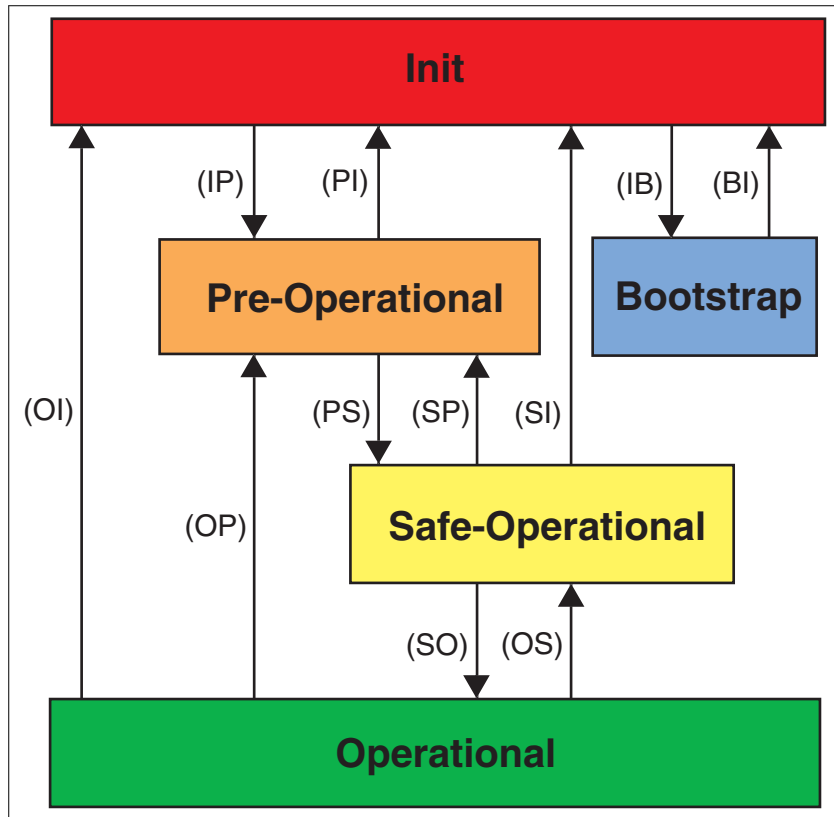

Figure 75: EtherCAT state machine
*State transitions* The following state transitions are defined, see also Figure 75: